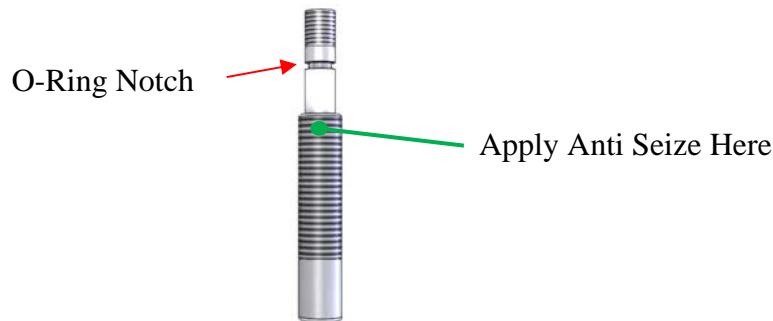

Figure 48: 2" Body Adjustment Screw O-Ring Notch
1. Lightly apply a small amount of anti-seize to the threads of the adjustment screw. See Figure 48.
5. Carefully place the adjustment screw o-ring onto the adjustment screw, making sure not to cut the o-ring. The o-ring should reside in a notch groove below the upper threads of the adjustment screw. See Figure 48.